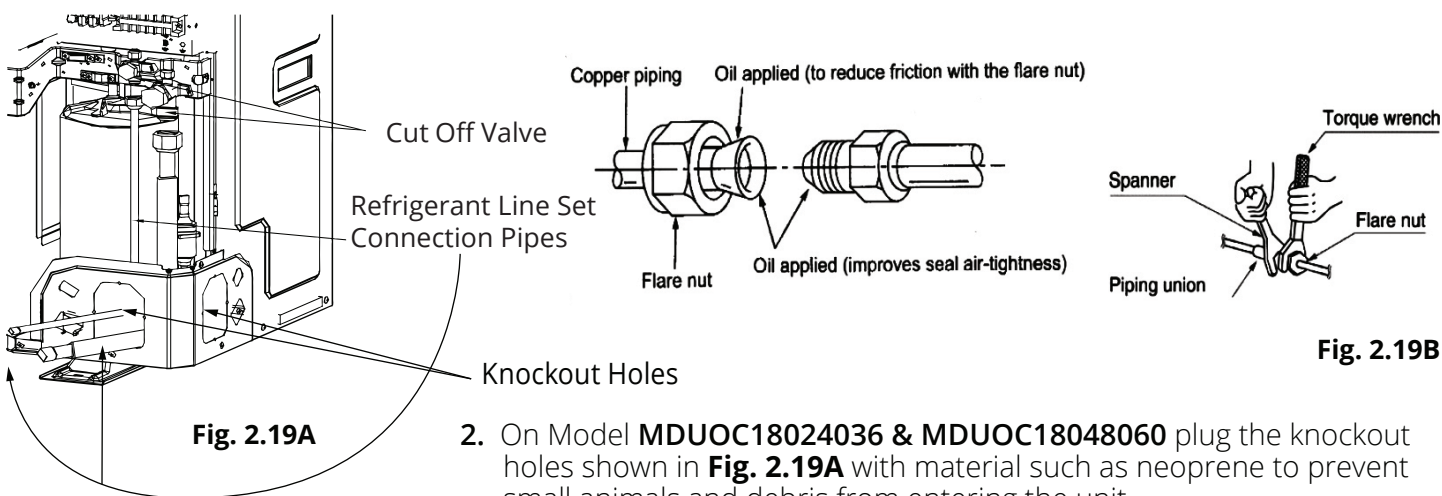

Fig. 2.19B
1. Screw the flare nut of the flared connecting pipe onto the outdoor unit valve. Refer to **Fig. 2.19A** & **Fig. 2.19B**, using the torque values in the table below.